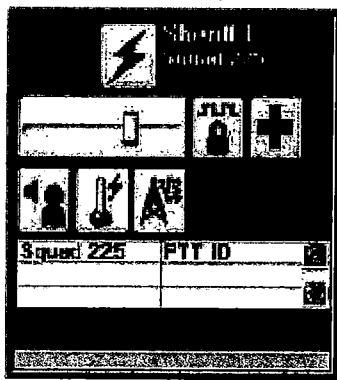

Figure 1-7: Expanded Radio Resource
- **Expanded Resource** – Allows the dispatcher to always shows the indicators and controls (Figure 1-7) and cannot be compressed. Note there is no arrow button on the resource. The expanded version provides the advantage of a single-button press for any function. It is ideal for dispatchers who are only monitoring a few channels/talk groups and where space in the resource folder is not at a premium.